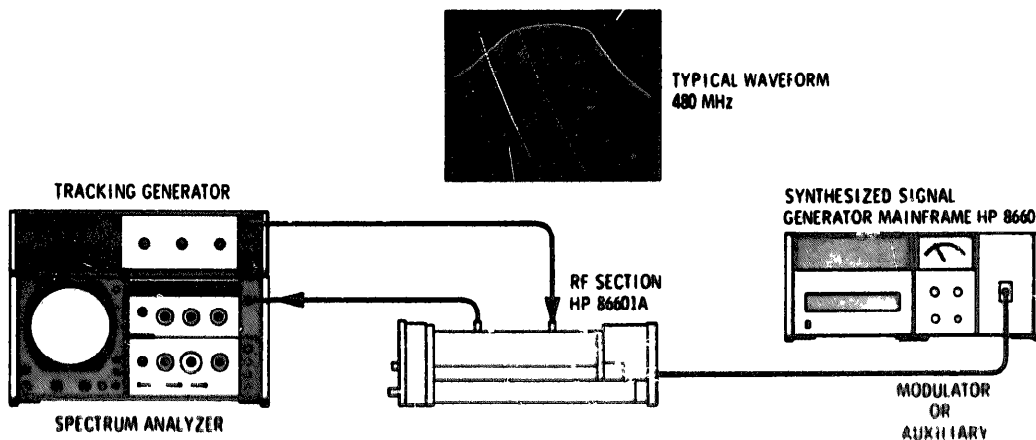

Figure 5-6. Active Filter Adjustment Setup
7. Connect the equipment as shown in Figure 5-6.